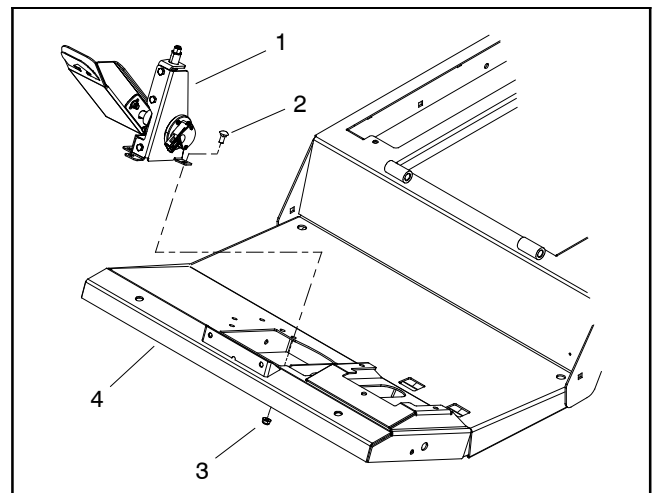

Figure 14
5. Remove fasteners that secure traction pedal assembly to operator platform and then remove traction pedal assembly from platform (Fig. 14).
2. Carefully lower operator platform and position over center mounts (item 4) that are installed in the frame.
3. Secure operator platform to machine frame with four (4) cap screws, flat washers, plain washers and lock nuts. Torque lock nuts from **95 to 115 ft-lb (129 to 155 N-m)**.
7. Position traction pedal assembly to operator platform and secure with removed fasteners (Fig. 14). Connect machine wire harness connector to position sensor on traction pedal assembly.